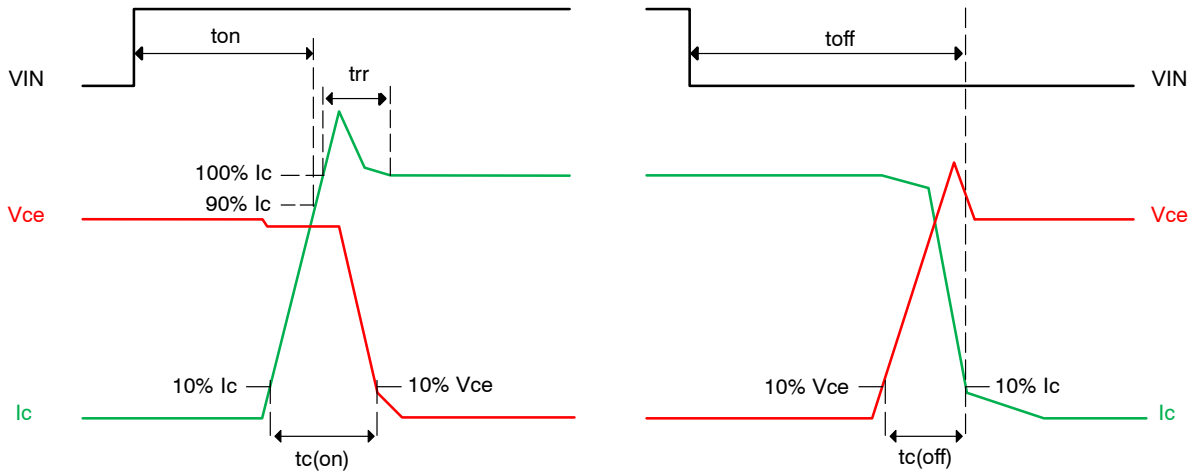

Figure 3. Switching Time Definitions
4. ton and toff include the propagation delay of the internal drive IC. tc(on) and tc(off) are the switching times of IGBT under the given gate-driving condition internally. For the detailed information, please see Figure 3.